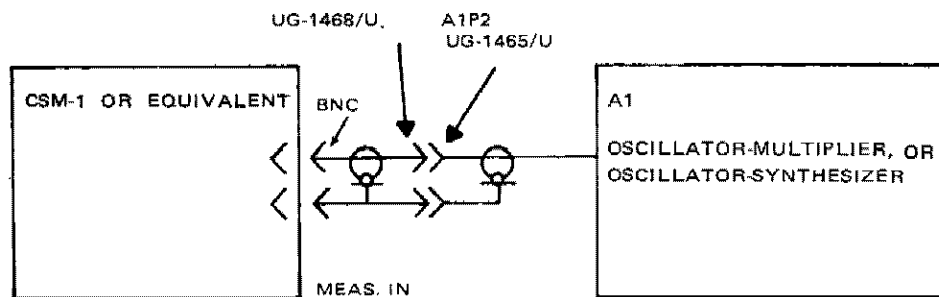

Figure 9-11. Test Setup for Local Oscillator Frequency Check
- \* **9.7.2.4 Local Oscillator Frequency Check.-** The purpose of this procedure is to determine if the local oscillator frequency is within tolerance  $\pm 0.001\%$  for 25 kHz and 50 kHz spacing. Figure 9-11 shows the test setup.
**9.7.2.4.2 Procedure.-** Remove receiver top cover. Disconnect oscillator, oscillator-multiplier, or oscillator-synthesizer cable A1P2 from J1 on mixer/multiplier module and connect test equipment as shown in figure 9-11 or loosely couple. Proceed as follows: